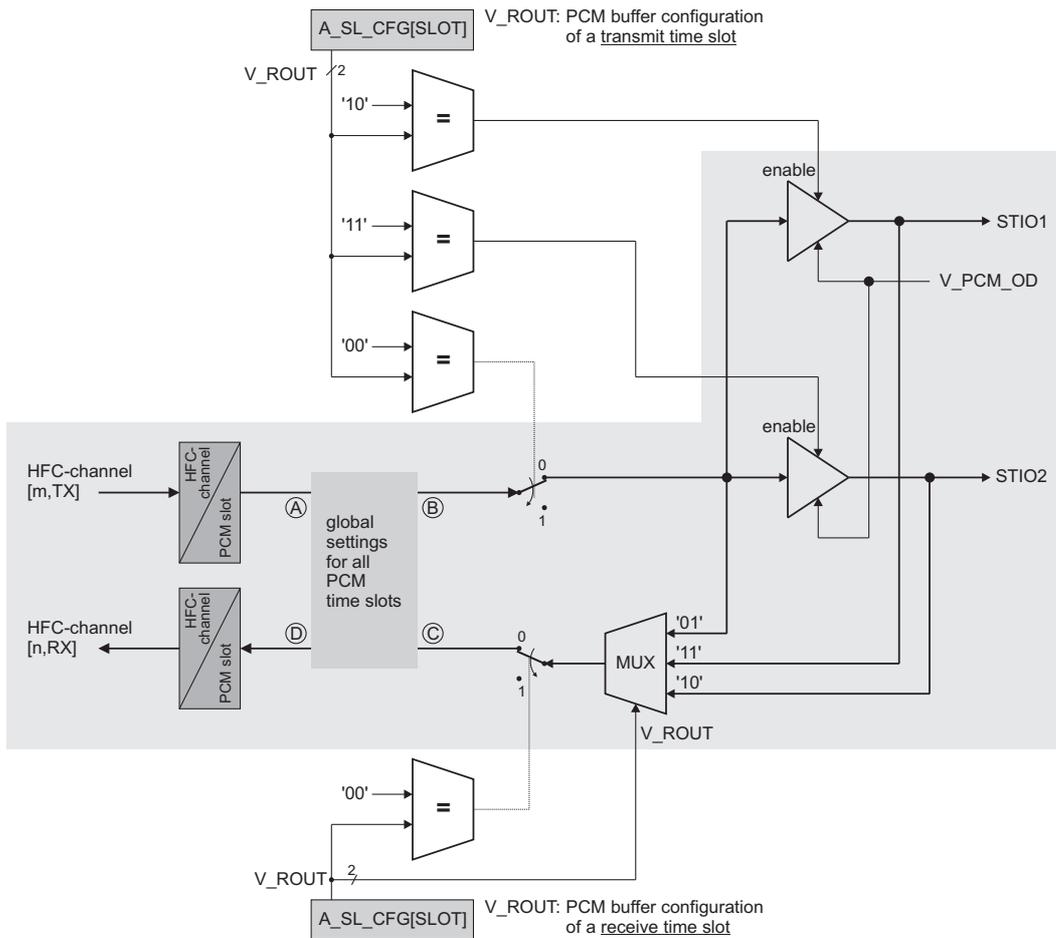
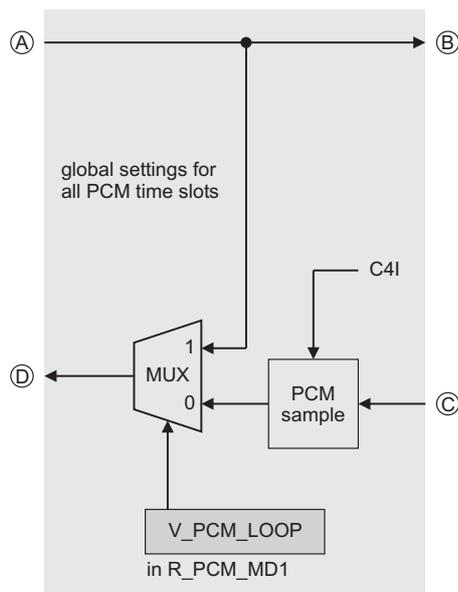

Figure 6.1: PCM data flow for transmit and receive time slots (see Figure 6.2 for additional setting of all PCM time slots between (A) . . (D))
Figure 6.2: Global settings for all PCM time slots (detail of Figure 6.1), normally used for test loop setup
The PCM data flow is shown in Figure 6.1. The input and output behavior has to be programmed with bitmap V_ROUT in the array register A_SL_CFG[SLOT].
Figure 6.1 shows the PCM data flow which can be programmed for each PCM time slot individually. Global settings to the PCM data flow are available between (A) . . (D) as shown in Figure 6.2. When V_PCM_LOOP = '1' in register R_PCM_MD1, the PCM data is looped internally.